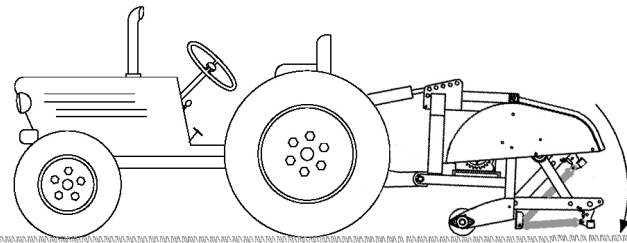

Figure 11
4. Lower the aerator to the ground and fully extend the top link cylinder or upper link (Figure 11).